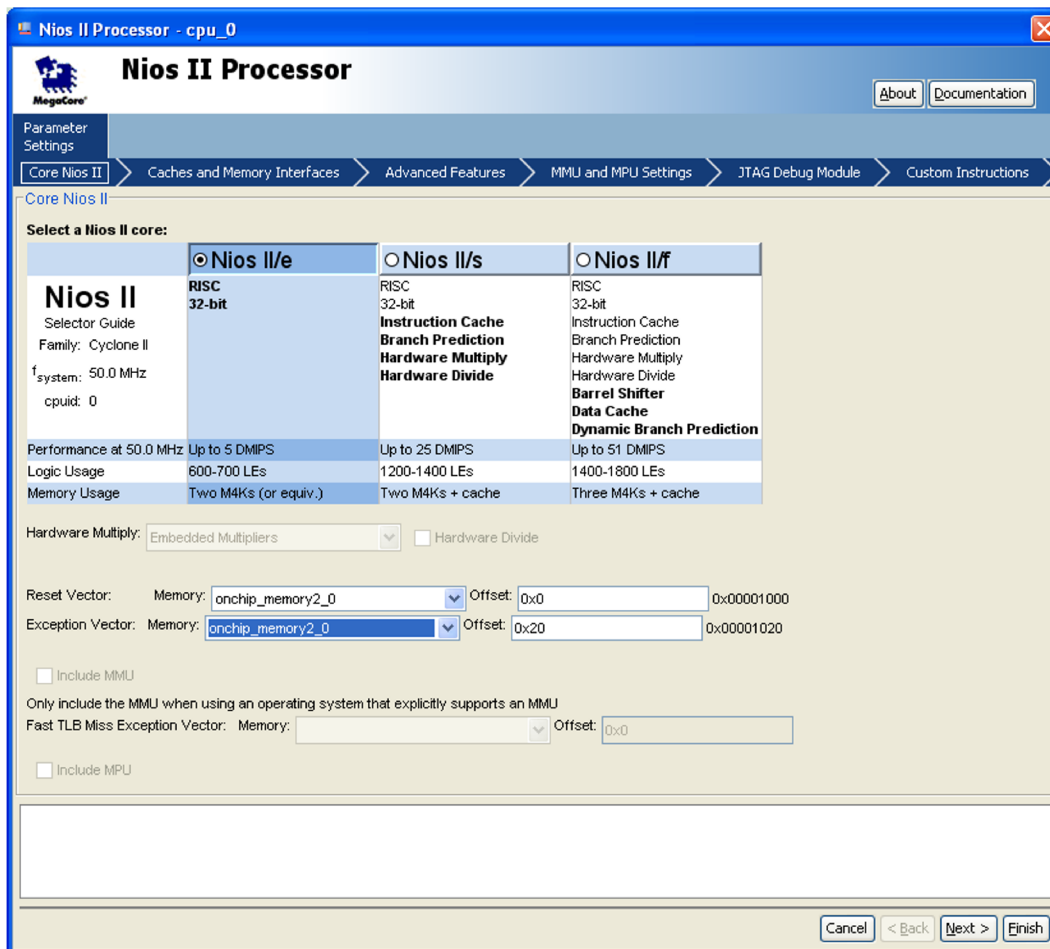

Figure 15. Define the reset vector and exception vector.
- Right-click on the `cpu_0` and then select **Edit** to reach the window in Figure 15
- Select `onchip_memory2_0` to be the memory device for both reset vector and exception vector, as shown in the Figure 15